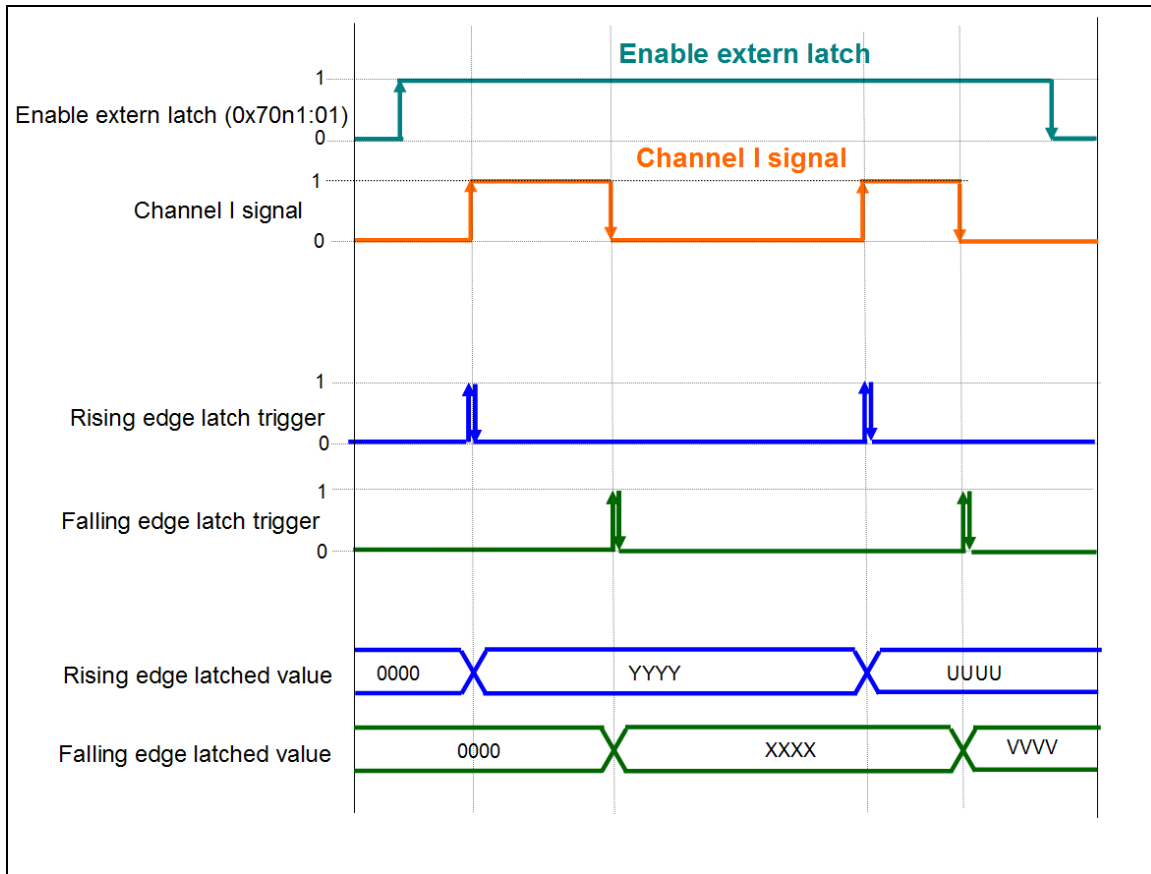

Figure 31: Rising and falling edge latch
- Position measurement: the value difference between the rising and falling latched position indicates the distance the encoder counter moved between the rising and falling input signal (Figure 31).